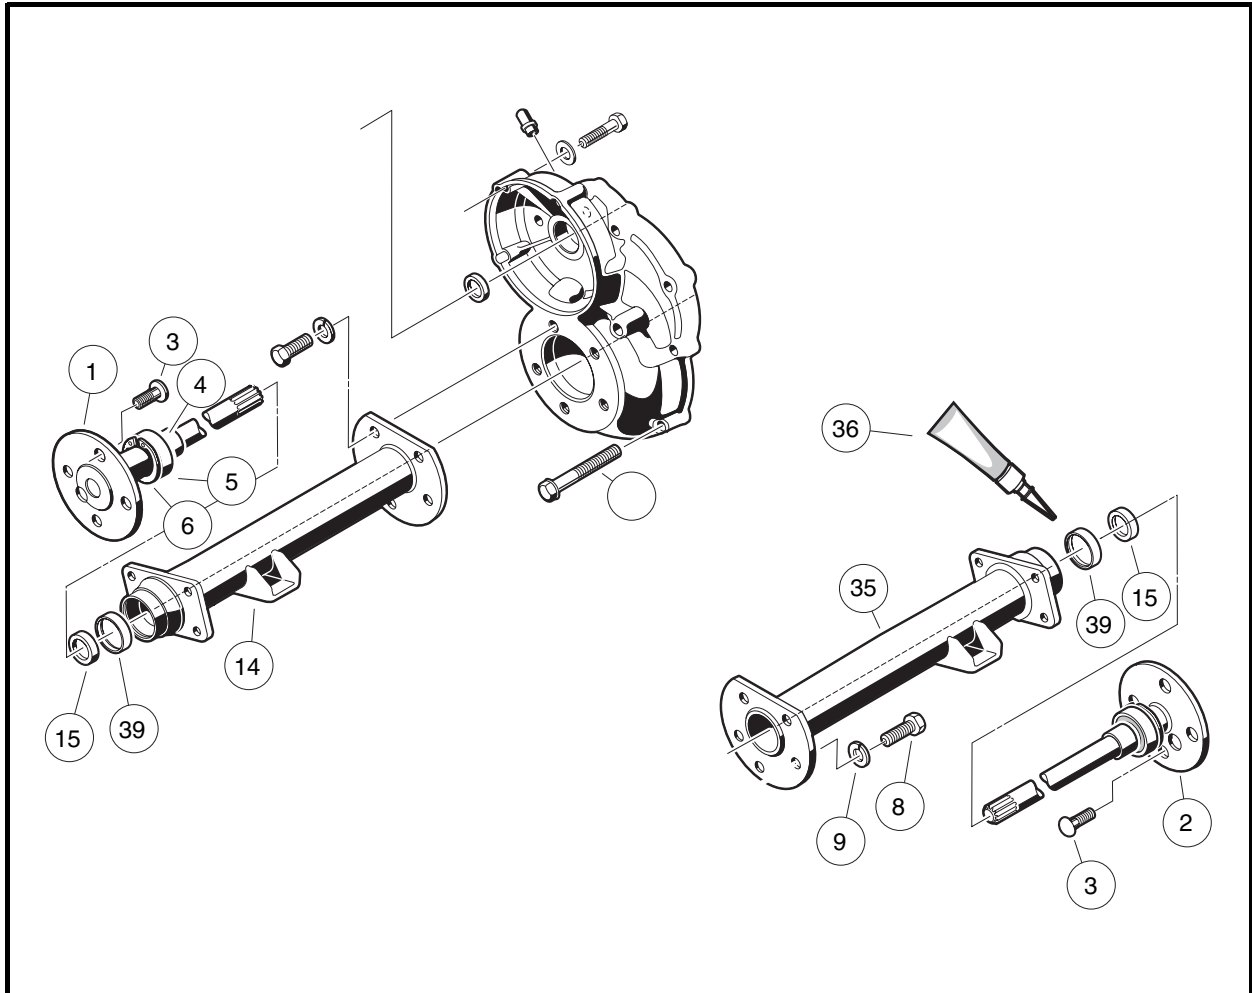

Figure 23-5 Axles And Tubes
There are two plugs located on the lower half of the transaxle housing. The upper plug (21) (as viewed when the vehicle is on a level surface) is used as a lubricant level indicator (**Figure 23-5, Page 23-3**). When the vehicle is parked on a level surface, the lubricant level should be even with the bottom of the hole. The lower plug (22) is for draining the lubricant. When draining the lubricant, the upper plug should be removed so the lubricant will drain faster. Be sure the drain plug is reinstalled before filling. **See following NOTE.**
7. Inspect bearing (5) **(Figure 23-5, Page 23-3).** If the bearing on the transaxle is worn or damaged, the entire axle shaft assembly (1 or 2) must be replaced.
- 1.3. Clean adapter ring seat(s) in the axle tube (14 or 35) (**Figure 23-5, Page 23-3**).
3. Use a pair of snap ring pliers to install the retaining ring (6) inside axle tube (**Figure 23-5, Page 23-3**). **See following NOTE.**
NOTE: *If the retaining ring (6), axle bearing (5), or sleeve (4) must be replaced, the entire axle shaft assembly (1 or 2) must be replaced (**Figure 23-5, Page 23-3**).*
Do not remove the axle bearing (5) from a Type G transaxle. If bearing is worn or damaged, the entire axle assembly (1 or 2) must be replaced (**Figure 23-5, Page 23-3**).